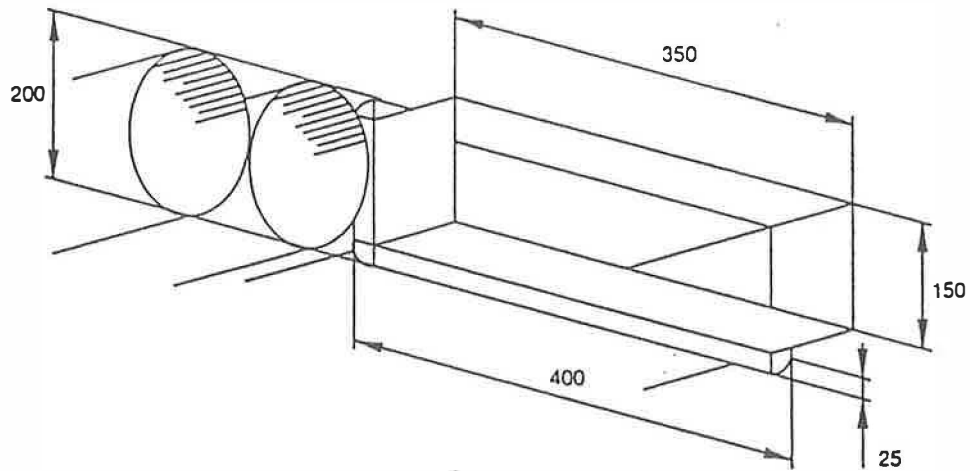

Figure 4 - Flat rectangular ducts can often be replaced by several round ducts without any need for extra space.
- Using two circular ducts instead of one rectangular also results in a lower overall cost, Figure 4.